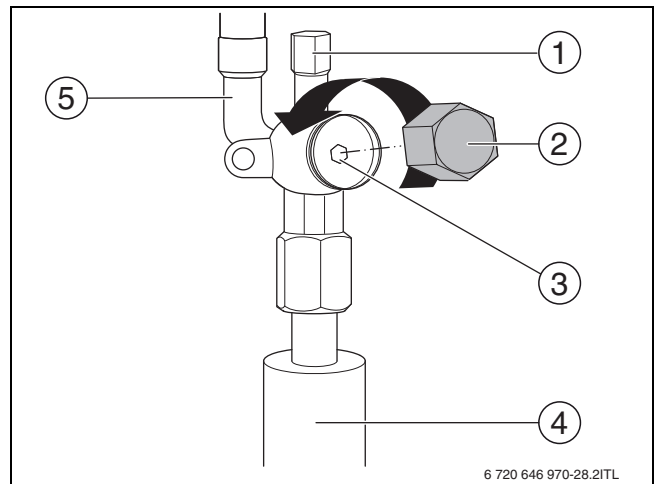

Fig. 77 Shut-off valve on the liquid refrigerant pipe work
- Connect a high performance vacuum pump to the Schrader valve (→ Fig. 77, [1]).